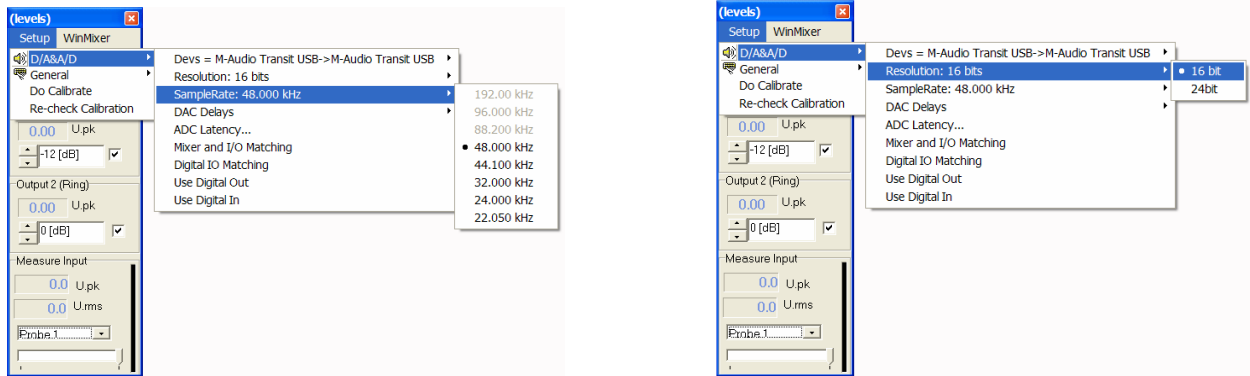

Figure 4
8. Before starting the AudioPass module you need to set the soundcard sampling rate and bit resolution if different than the default values. Go to the **(levels)** form (See Figure 4) and select **Setup> D/A&A/D>SampleRate:** to select desired rate. Go to the **(levels)** form and select **Setup> D/A&A/D>Resolution:** to select desired bit depth.